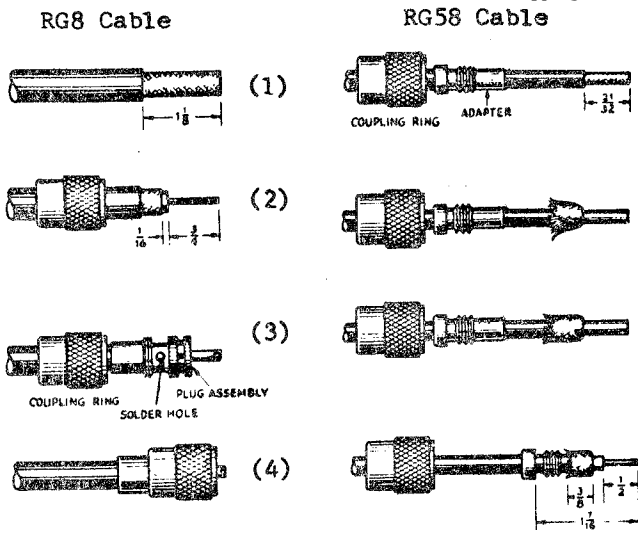

Figure 2-3. Connector Assembly.
The procedure for installing a PL-259 (83-1SP) antenna connector is dependent upon type co-axial cable used - the PL-259 is installed directly on 0.405" OD cable such as RG8/A, whereas, the plug requires an adapter when used with the 0.195" OD cable such as RG58/A. The procedures for both cable types are given below, and shown in Figure 2-3.
1. Trim end of cable flush; remove vinyl jacket from 1-1/8" of cable as shown in Figure 2-3(1). Do NOT nick braid.
2. Bare 3/4" of center conductor. Trim braided shield 1/16" and tin. Slide coupling ring on cable. See Figure 2-3 (2).
1. Trim end of cable flush; remove vinyl jacket from 21/32" of cable as shown in Figure 2-3 (1). Do NOT nick braid. Slide coupling ring and adapter on cable.
2. Fan braid slightly and fold back over cable. See Figure 2-3 (2).
3. Compress braid around cable, Figure 2-3 (3), and position adapter to dimension given in Figure 2-3 (4). Press braid over adapter sleeve and trim to dimension shown.